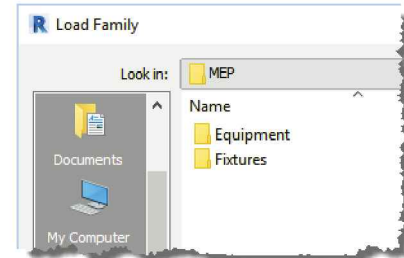

FIGURE 11-1.1 Plumbing fixtures
- a. Browse to the Plumbing\MEP folder (Figure 11-1.1).